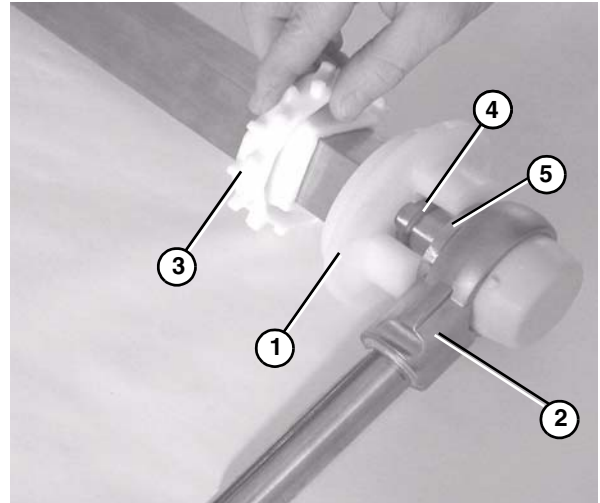

Figure 66
1. Attach a flanged puck (**Figure 66, item 1**), an O-ring (**Figure 66, item 4**), a washer (**Figure 66, item 5**) and a bearing shaft assembly (**Figure 66, item 2**) to the supporter end of the drive spindle.
2. Slide the first sprocket (**Figure 66, item 3**) onto the drive spindle.